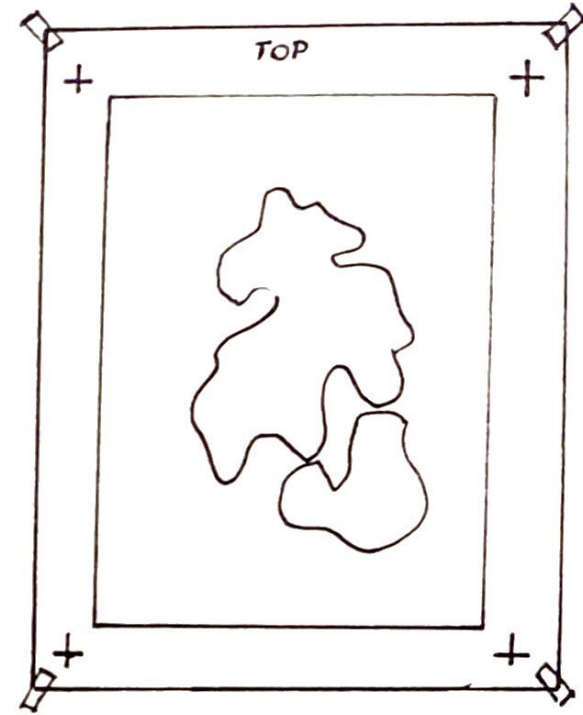

Fig. 8
2) At four edges of the master drawing, registration marks should be placed with a ruler. (see fig.8)